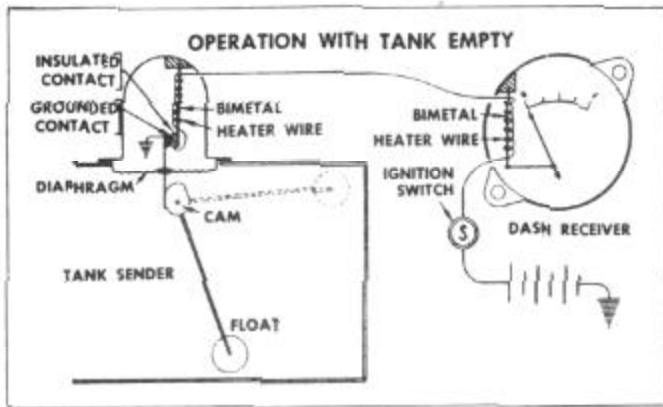
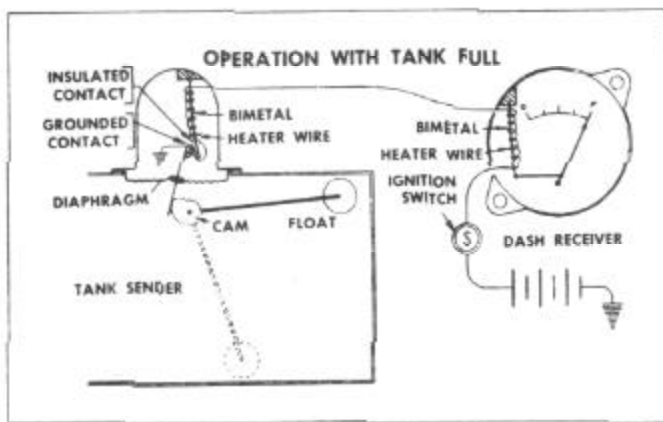

FIGURE 85
FIGURE 86
1. Disconnect the lead of the tank unit on the car and connect this lead to the tank test unit and ground same to the car frame. Turn on ignition switch and operate tank test unit float by hand. With the float of the test unit at the bottom position the car dash unit should register at the bottom mark on the dial as in Figure 85. Move float rod up to top position and car dash unit should move to top mark on the dial, as shown in Figure 86. Allow one minute